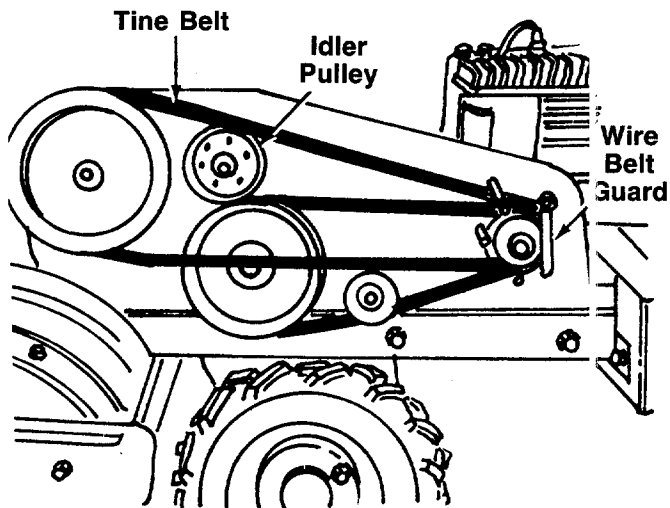

FIGURE 21.
2. Lift the belt from under the flat idler pulley. See figure 21.
3. Remove the wire belt guard. See figure 21.